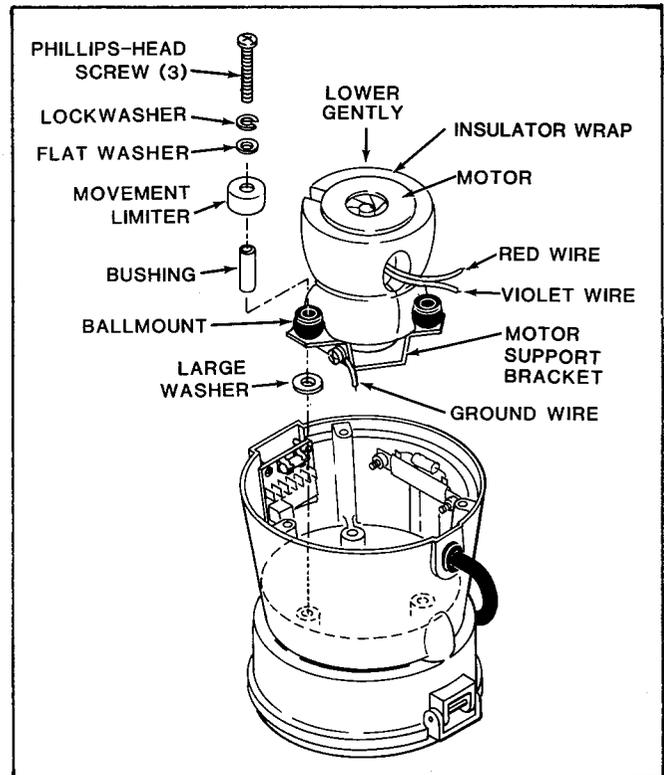

Figure 5-9. Motor and Ballmount Installation
- z. Refer to Figure 5-9, and ensure that large washers are in position over motor mounting pads. Orient motor and support bracket correctly, and gently lower assembly onto washers. Check to see that washers remained in position over mounting pads.
- aa. Reassemble attaching hardware of each ballmount exactly as shown in Figure 5-9; then tighten ballmount screws securely.
- i. Refer to Figure 5-9, and ensure that large washers are in position over motor mounting pads. Orient motor and support bracket correctly, and gently lower assembly onto washers.
- j. Reassemble attaching hardware of each ballmount exactly as shown in Figure 5-9; then tighten ballmount screws securely.